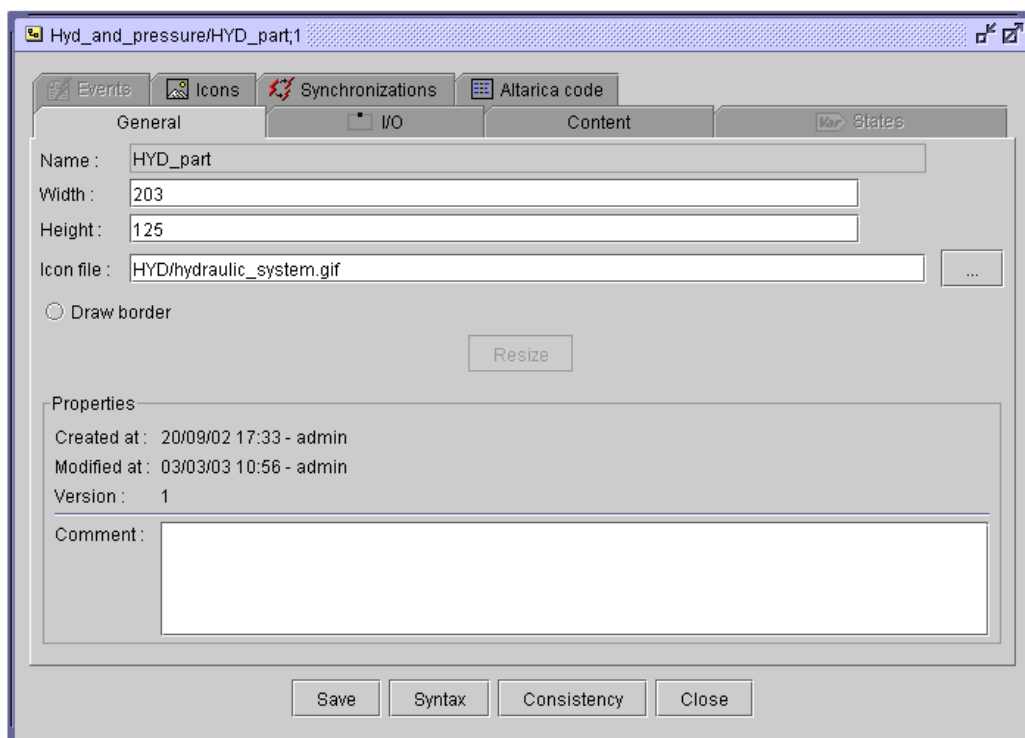

Figure 75 : Equipment - General tab
- The model editor (Figure 75) is displayed
The **General** tab (Figure 75) allows the following information to be typed in: